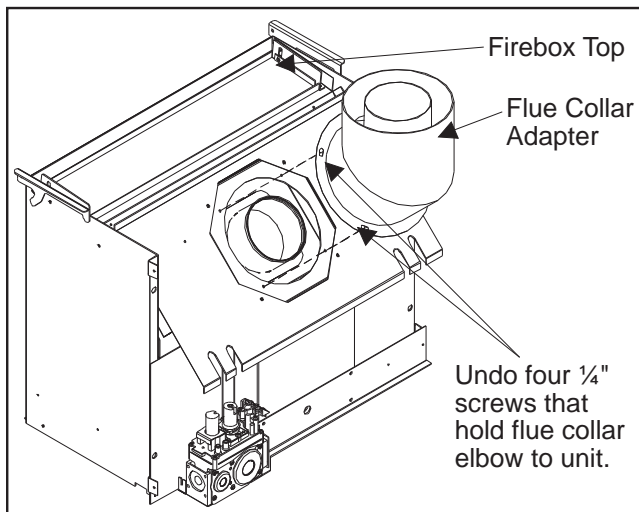

Figure 38: Step 3 of Converting Top Vented into Rear Vented.
1. Carefully remove the stovetop and place on a soft surface as not to damage the painted finish (see Figure 38).